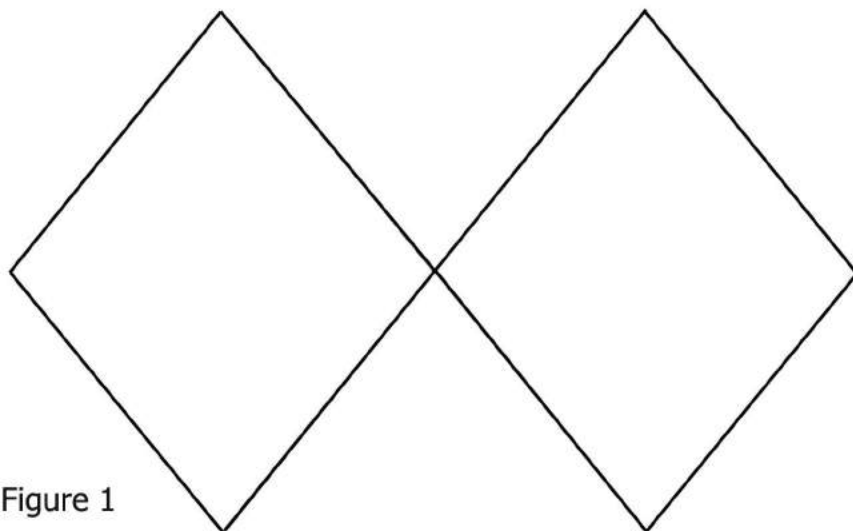

Figure 1
2. Use an open ring to attach the 2 scales together. There's no trick to this; simply put a ring through both holes horizontally (Fig 1) and close the ring. One ring will slightly overlap the other.
Essentially, a scale bra is made up of 2 diamonds attached at the center (Figure 1), with added modifications that force the bra to cup around the breast. If you create 2 diamonds and attach them at the center, but don't add the modifications that will be talked about in the next section, you'll have a scale halter top that hangs over the breasts but doesn't support them.